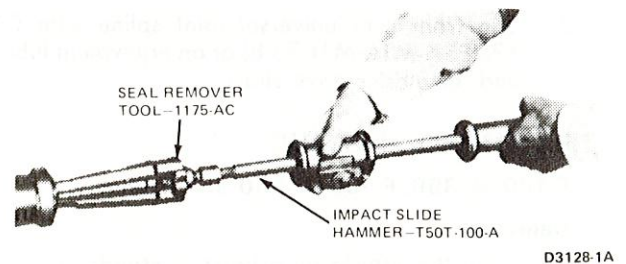

FIG. 6 Removing Extension Housing Seal
2. When only the rear seal needs replacing, carefully remove it with a tapered chisel or the tools shown in Fig. 6. Remove the bushing as shown in Fig. 7. **Use the bushing remover carefully so that the spline seal is not damaged.**